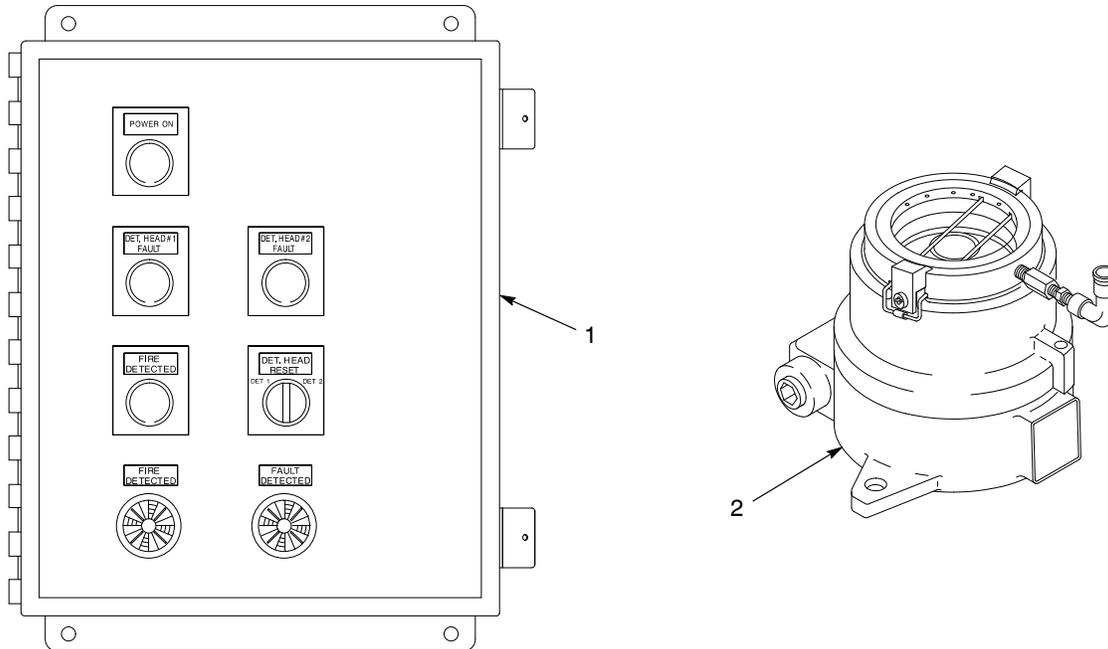

Figure 1 FS10-R30 Flame Detector Components
See Figure 1. The flame detector consists of an indicator panel (1) and one or two detector heads (2).